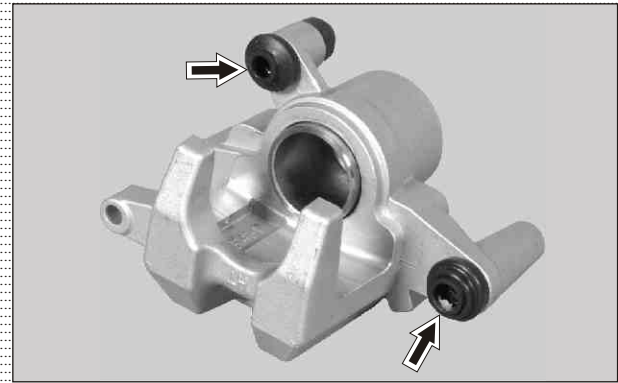

Fig. 6.103
- Carefully pull out boots from the caliper assembly housing. (Fig. 6.103)